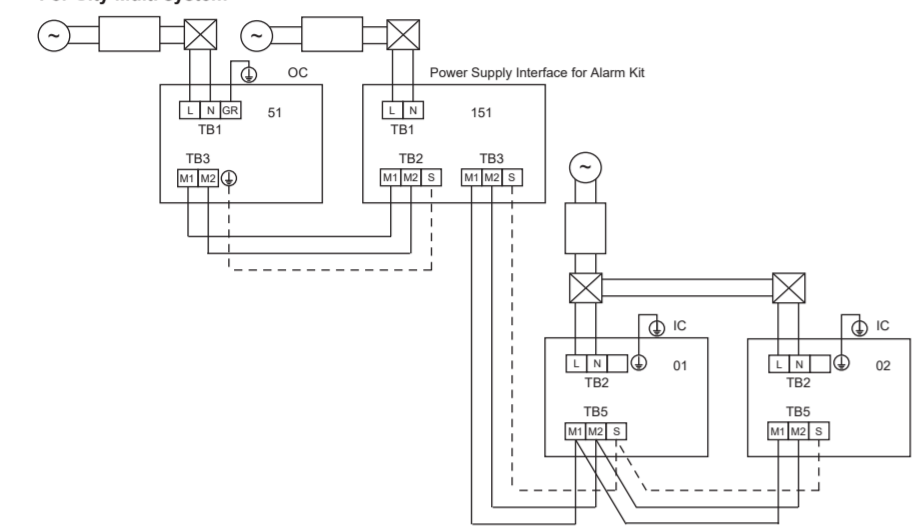

Fig. 5-12
5.4. External wiring procedure (Fig. 5-12, 5-13)